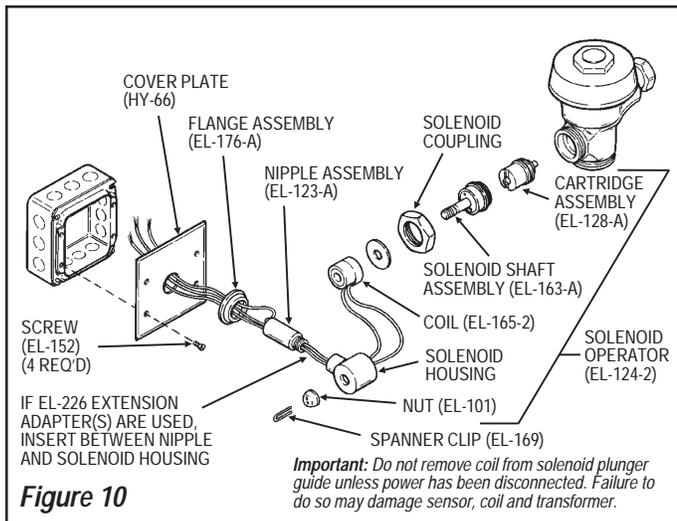

Figure 10
EXPOSED FLUSHOMETER INSTALLATIONS — MODELS 110/111 ES-S, 115 ES-S & 116 ES-S (Figure 10)
Step 10 — Secure Solenoid Housing and Coil Assembly (Figure 10)
- B. **EL-128-A Cartridge is fouled or jammed (refer to Figure 10)** — Turn off power to valve. Remove Solenoid Operator from valve and remove EL-128-A Cartridge. Clean and/or replace as necessary.
- A. **EL-163-A Solenoid Shaft Assembly is fouled or jammed (refer to Figure 10)** — Turn off power to valve. Remove Coil from Solenoid Operator. Using a spanner wrench or pliers, remove EL-163-A Solenoid Shaft Assembly from Valve. Clean and/or replace as necessary.